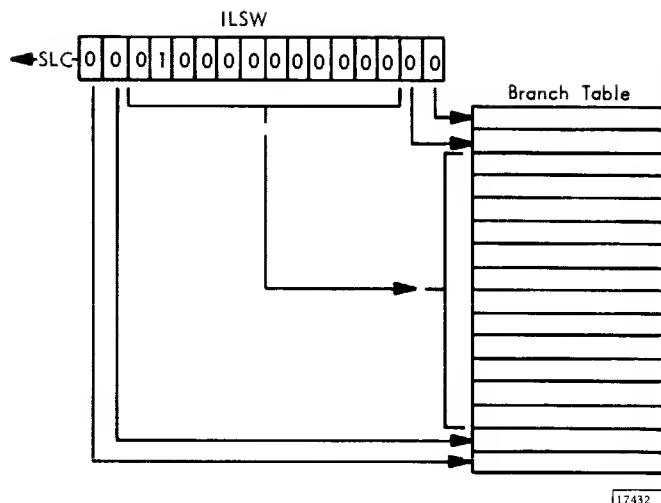

Figure 27. ILSW Branch Table
8. A BSC instruction is executed. This instruction is both indirect and indexed with the index register containing the count corresponding to the first non-zero bit in the A-register. The Address of the BSC instruction is related to the bottom word of the Branch Table (Figure 27).